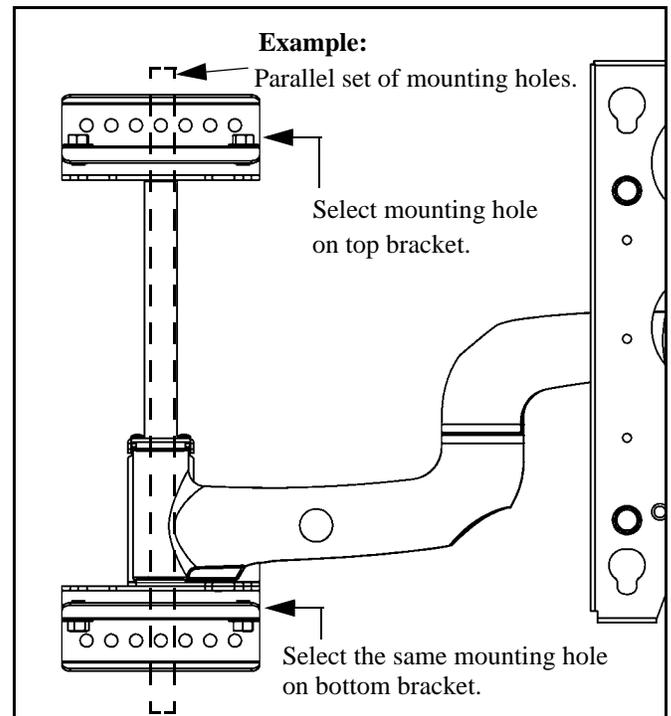

Figure 2: Select Parallel Mounting Holes
5. Select the mounting holes on the top bracket and bottom where the lag bolt will be installed (see figure 2). Use a pencil, awl, or small nail to mark the mounting hole where the pilot hole will be drilled into the center of the wood stud.